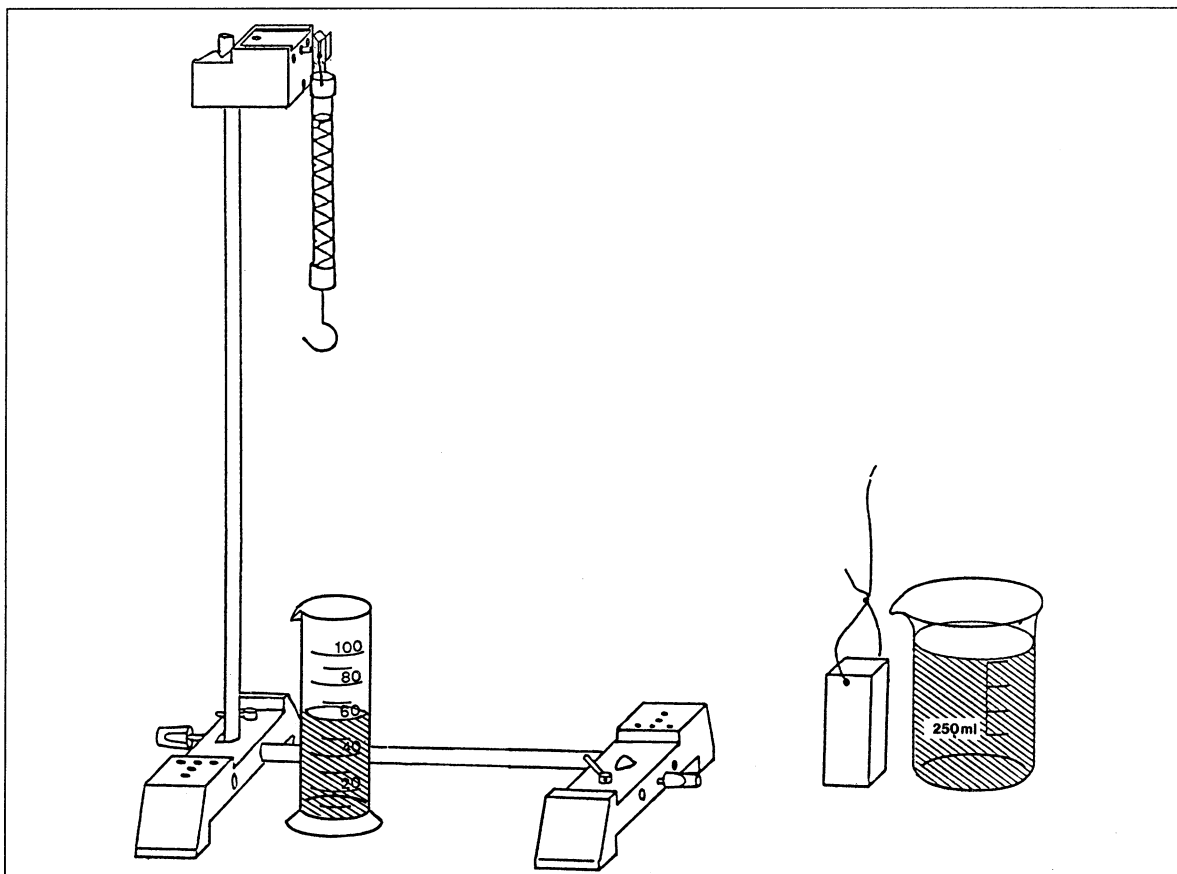

Fig. 1 Setup for determining the buoyancy of a body.
1. Set up the stand as shown in fig. 1.